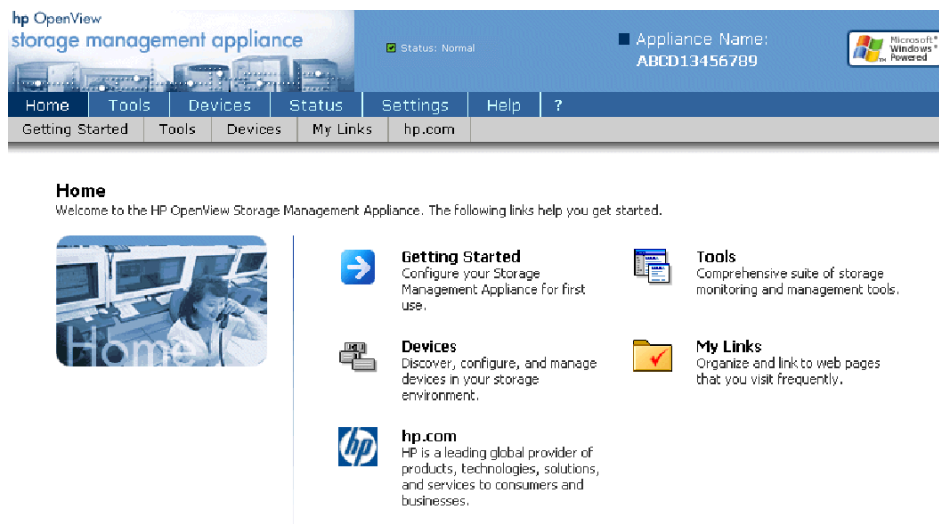

Figure 22: SMA software Home page
3. Log in to the SMA by entering a user name and password, and then click **OK**. The SMA software Home page is displayed. (Figure 22).